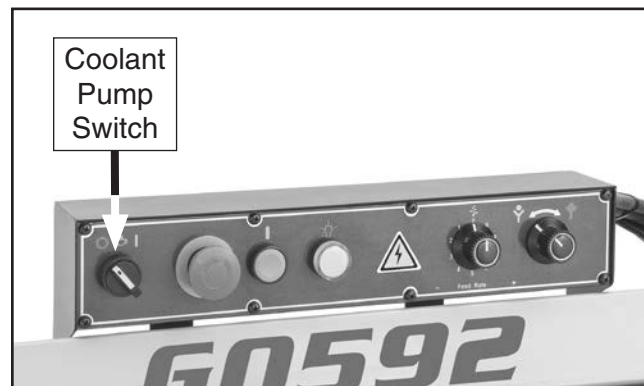

Figure 22. Location of coolant pump switch.
15. Start machine, then turn coolant pump switch to On (I) position (see **Figure 22**). Verify coolant flows through valves and onto blade guides, then turn coolant pump switch to Off (O) position and turn coolant pump **OFF**.